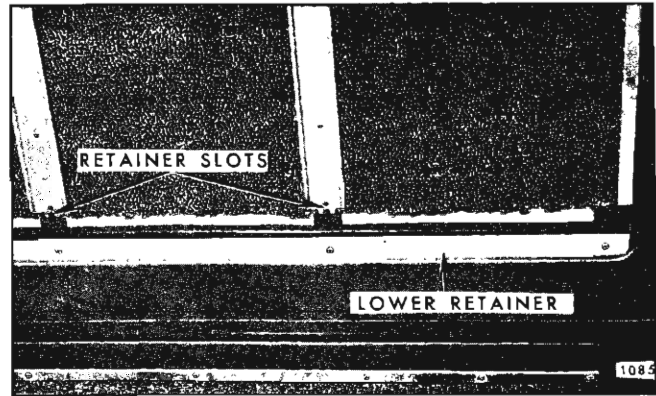

Fig. 1F38—Inner Panel Cover Removal
- tightening screws (see Fig. 1F36).